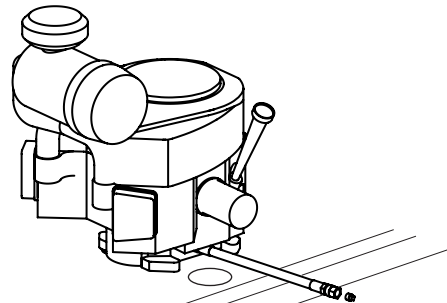

Figure 14
2. Locate the oil drain hose on the engine (Figure 14).
- While holding the free end of the oil drain hose over the oil collection container, unscrew the square-head hose plug from the end of the hose (Figure 14). Drain the engine oil into the collection container.